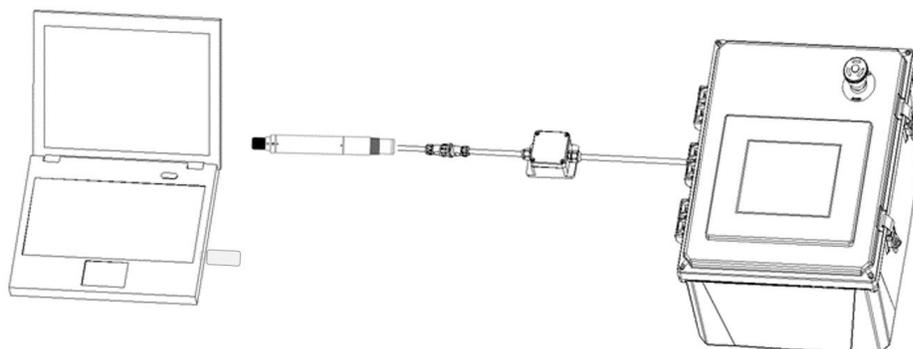

Figure 15 Connect the ST-772 to a computer via Pyxis MA-CR Bluetooth adapter
3. Select Connect via MA-NEB Bluetooth USB adapter. (Figure 15)